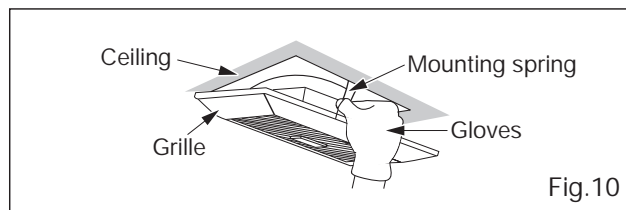

Fig.10
12. Insert the other mounting spring into the slot as shown and mount grille to fan body. (Fig.10)